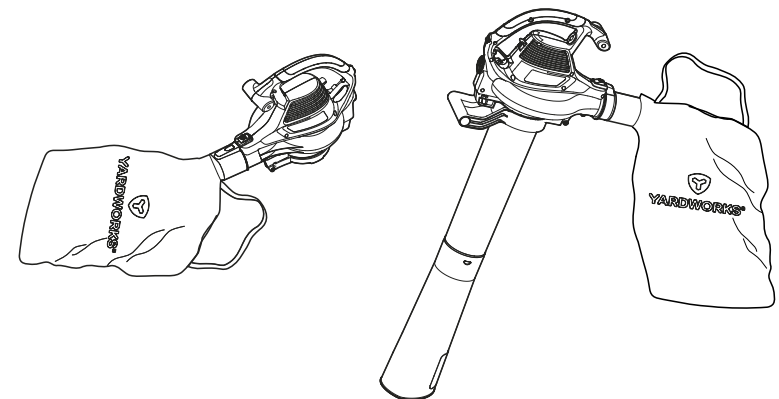

Fig. 6
- While standing in the operating position adjust the length to fit the operator's size. Pull the tab to lengthen, pull the strap to shorten. (Fig. 6)